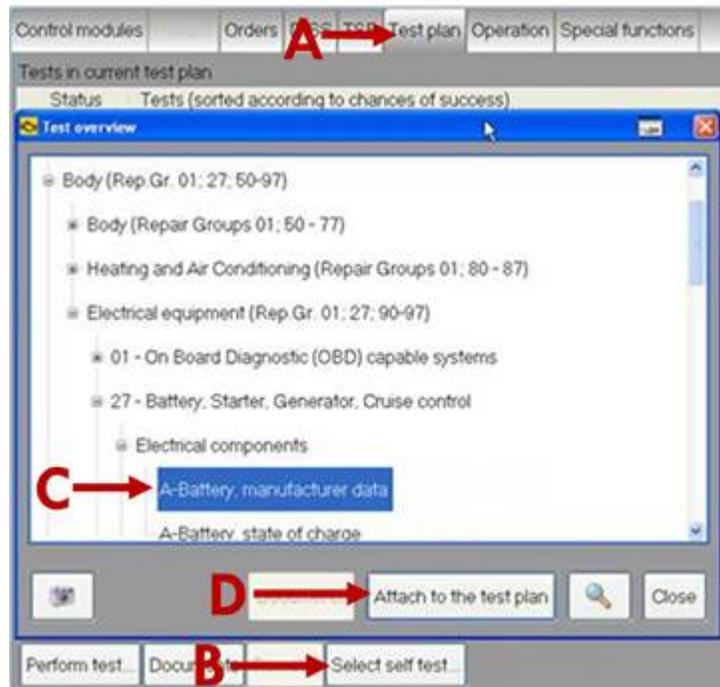

Figure 1. Selecting a test plan in ODIS.
1. Through ODIS GFF (Figure 1):
- Select **Test plan** (A).
- Select **Select self test...** (B)
- In the Test Overview window, select **A - Battery, manufacturer data** (located under *Body >> Electrical equipment >> Battery, Starter, Generator, Cruise control >> electrical components >> A - Battery, manufacturer data*) (C).
- Select **Attach to the test plan** (D).